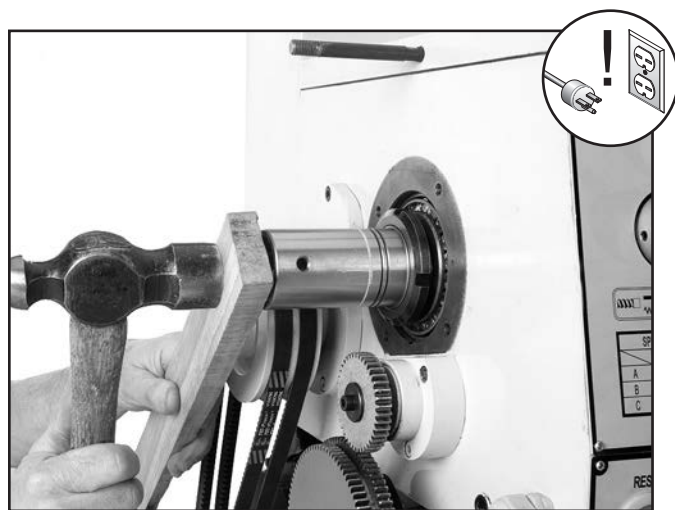

Figure 117. Introducing detectable end-play.
8. Place wooden block over outboard end of spindle, tap it a few times with small sledge or heavy dead blow hammer (**Figure 117**). Your goal is to slide spindle forward just enough to introduce spindle end-play that you can feel by hand.